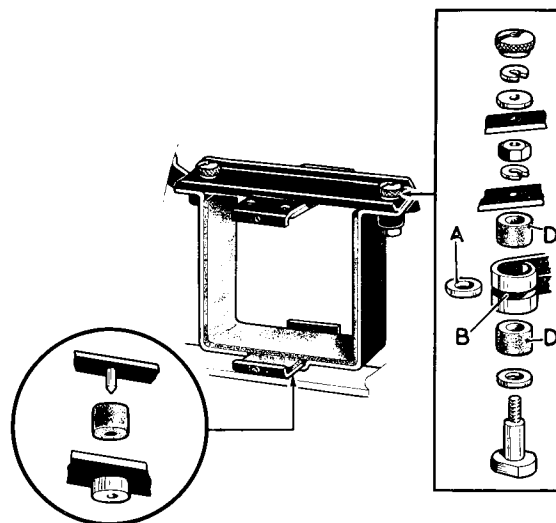

FIG. D.9. Battery carrier.
If the carrier is removed for any reason it is essential that the reassembly is carried out in the order shown in Fig. D.9. The plain washer (A) fits into slot (B) with rubber bushes (D) on each side.